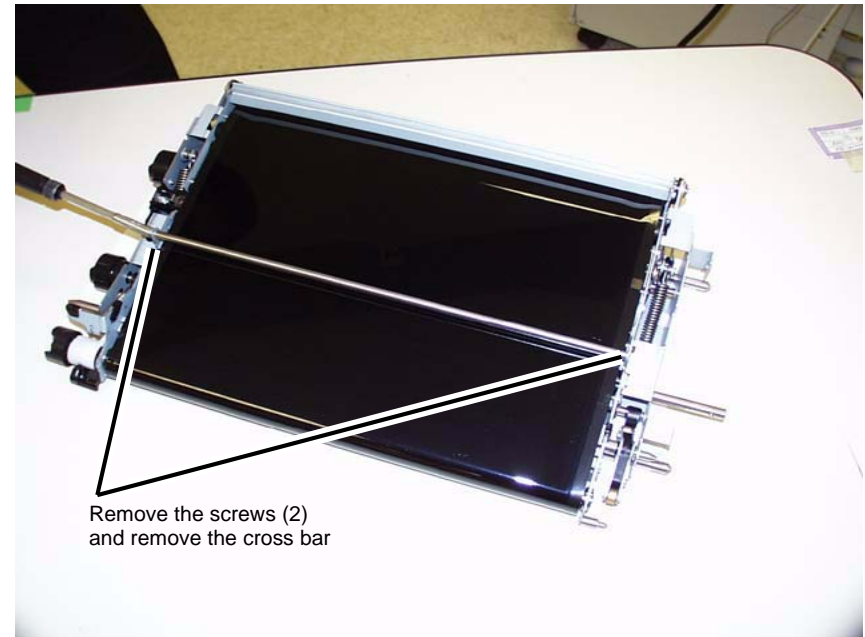

Figure 2 Removing the cross bar
6. Remove the cross bar from the IBT Module. (Figure 2)